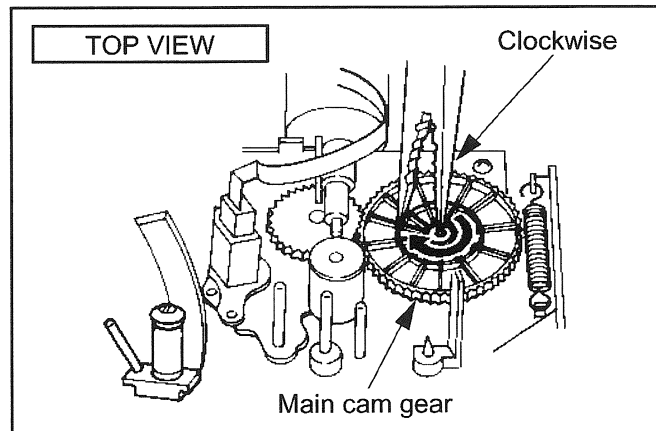

Fig. S4
- b. Rotate Main Cam Gear to the clockwise and unload the mechanism (Tape is remaining) (Fig. S4).